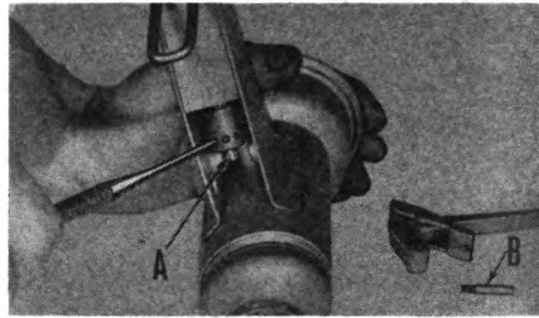

Figure 194
b. WHAT TO DO IF LUBRICANT LEAKS AT UPPER END OF VALVE STEM ("A" FIGURE 194).
(1) Remove lever by unscrewing pin ("B" Figure 194).
(2) Tighten packing box by placing punch in hole and turning clockwise.